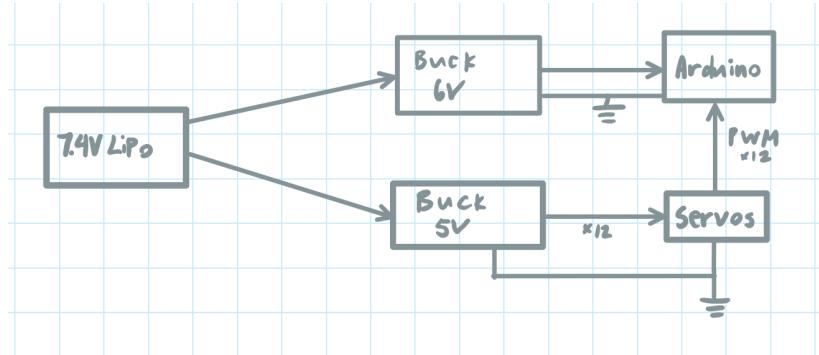

Figure 6: Electrical system
to the high number of PWM ports (14), which would support all 12 servos on the bot. No other microcontroller was as cheap and easy to use, while supporting 12 servos without an IO expander. A 7.4V LiPo battery is used for power, and two buck converters are used to regulate voltage. The ArduinoMEGA runs off 6-20V, while the servos accept 4.8-6V. These were originally both run off the same buck converter at 6V but this was scrapped. When both systems ran off of one buck converter, the current draw was likely too high. The behaviour seen was the setup() function in the arduino repeating every time it tried to move. The overall electrical system is seen in fig 6.